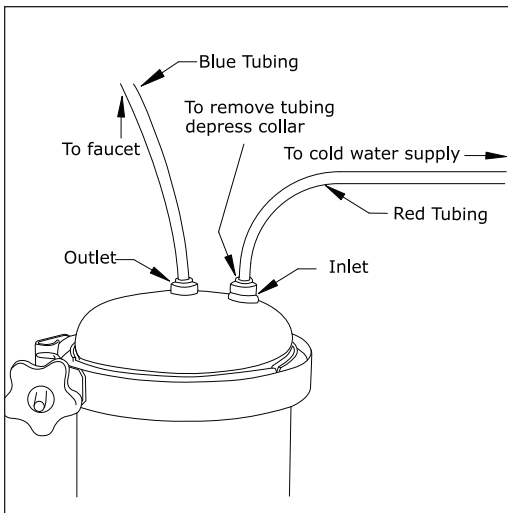

Figure 2
1. Locate the area on the cold water line for installation of the two 1/2" adapters (4).
4. Thread the connector valve (5) into the top of the adapter.
5. Thread the other adapter (4) into the top of the connector valve.
7. Press the red tubing (3) into the adapter.
8. Press the opposite end of the tubing into the inlet connector of the stainless steel lid (6), as shown in Figure 2.
1. Locate the area on the cold water line for installation of the connector valve (5).
4. Press the red tubing (3) into the connector valve.
5. Press the opposite end of the tubing into the **inlet** connector of the stainless steel lid (6), as shown in Figure 2.
To connect faucet to unit, press the blue tubing from the faucet into the **outlet** connector of the stainless steel lid (6), as shown in Figure 2.
Position the filter life indicator control box (12) as shown in Figure 1, against the back wall under the sink. Secure to wall with Velcro (provided). Insert the blue tubing that is attached to the PiMag Deluxe faucet into the outlet side of the filter life indicator box. (Arrow on indicator box shows direction of flow, points to outlet.) Insert one end of the other length of blue tubing provided into the inlet side of the filter indicator box. Connect the other end to the outlet connector of the stainless steel lid (6) as shown in Figure 2.